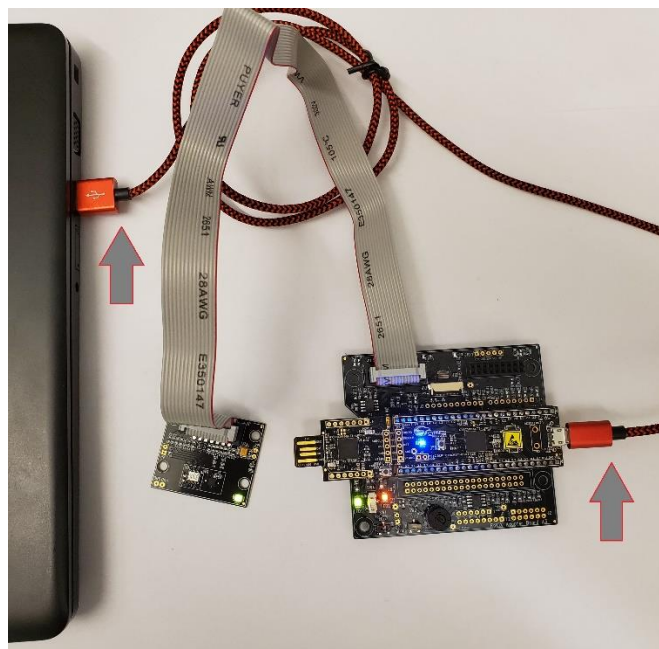

Figure 87. RKX-EVK-001 connected to PC (connection to the evaluation board is optional in this step)
2. Connect the Infineon CY8CKIT-059 Prototypic Kit to a computer using the provided micro-USB cable (*Figure 87*).